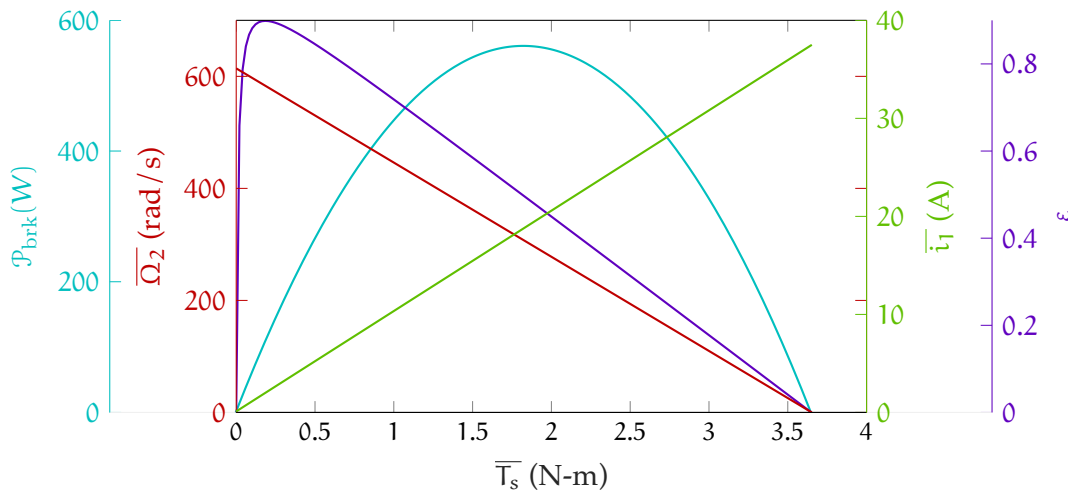

Figure exe.7: the motor curve Fig. curves.2.
Consider the DC motor curves of Fig. curves.2, reproduced in Fig. exe.7.
- You are to use this motor to drive a load at a constant angular speed of 100 rad/s with at least 1 N-m of torque. You wisely choose to use a gear reduction between the motor and load. What should the gear ratio be to meet the above requirements and optimize efficiency? Justify your answer in terms of the motor curves of Fig. exe.7.
Consider the DC motor curves of Fig. curves.2, reproduced in Fig. exe.7. If this motor is running at $400 \frac{\text{rad}}{\text{s}}$,